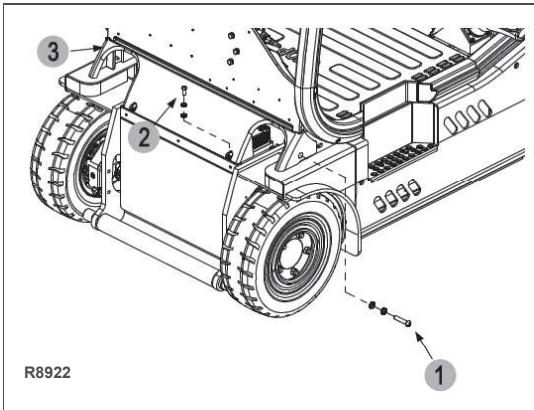

Figure 10-4 Front Cover
2. Remove the two screws (2, Figure 10-4) and remove the cover (3) from the chassis.